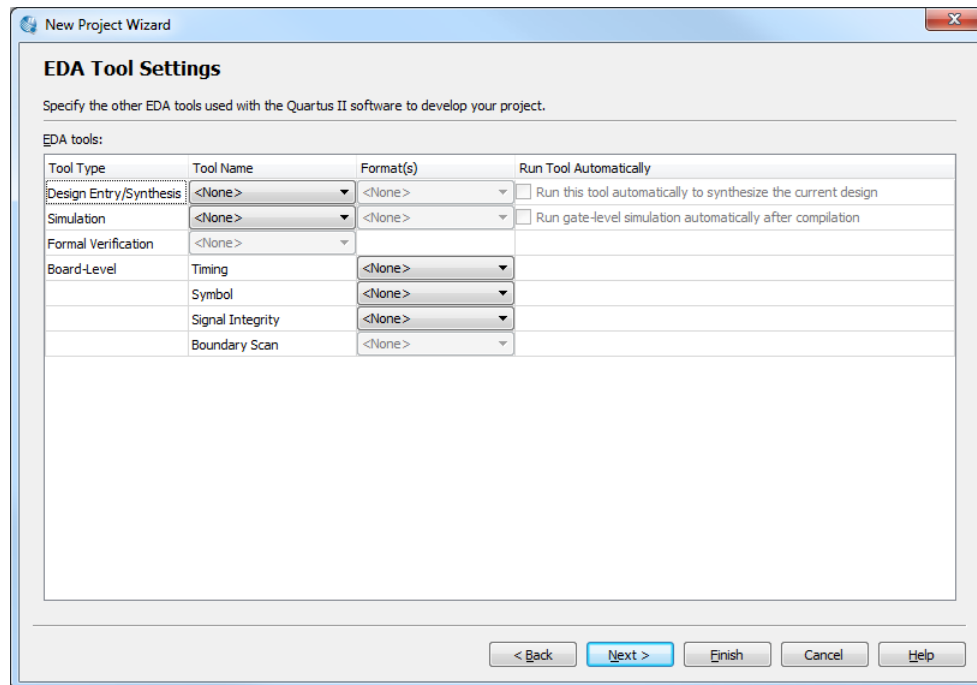

Figure 9. Other EDA tools can be specified.
5. We have to specify the type of device in which the designed circuit will be implemented. Choose the Cyclone-series device family for your DE-series board. We can let Quartus II software select a specific device in the family, or we can choose the device explicitly. We will take the latter approach. From the list of available devices, choose the appropriate device name for your DE-series board. A list of devices names on DE-series boards can be found in Table 1. Press Next, which opens the window in Figure 9.